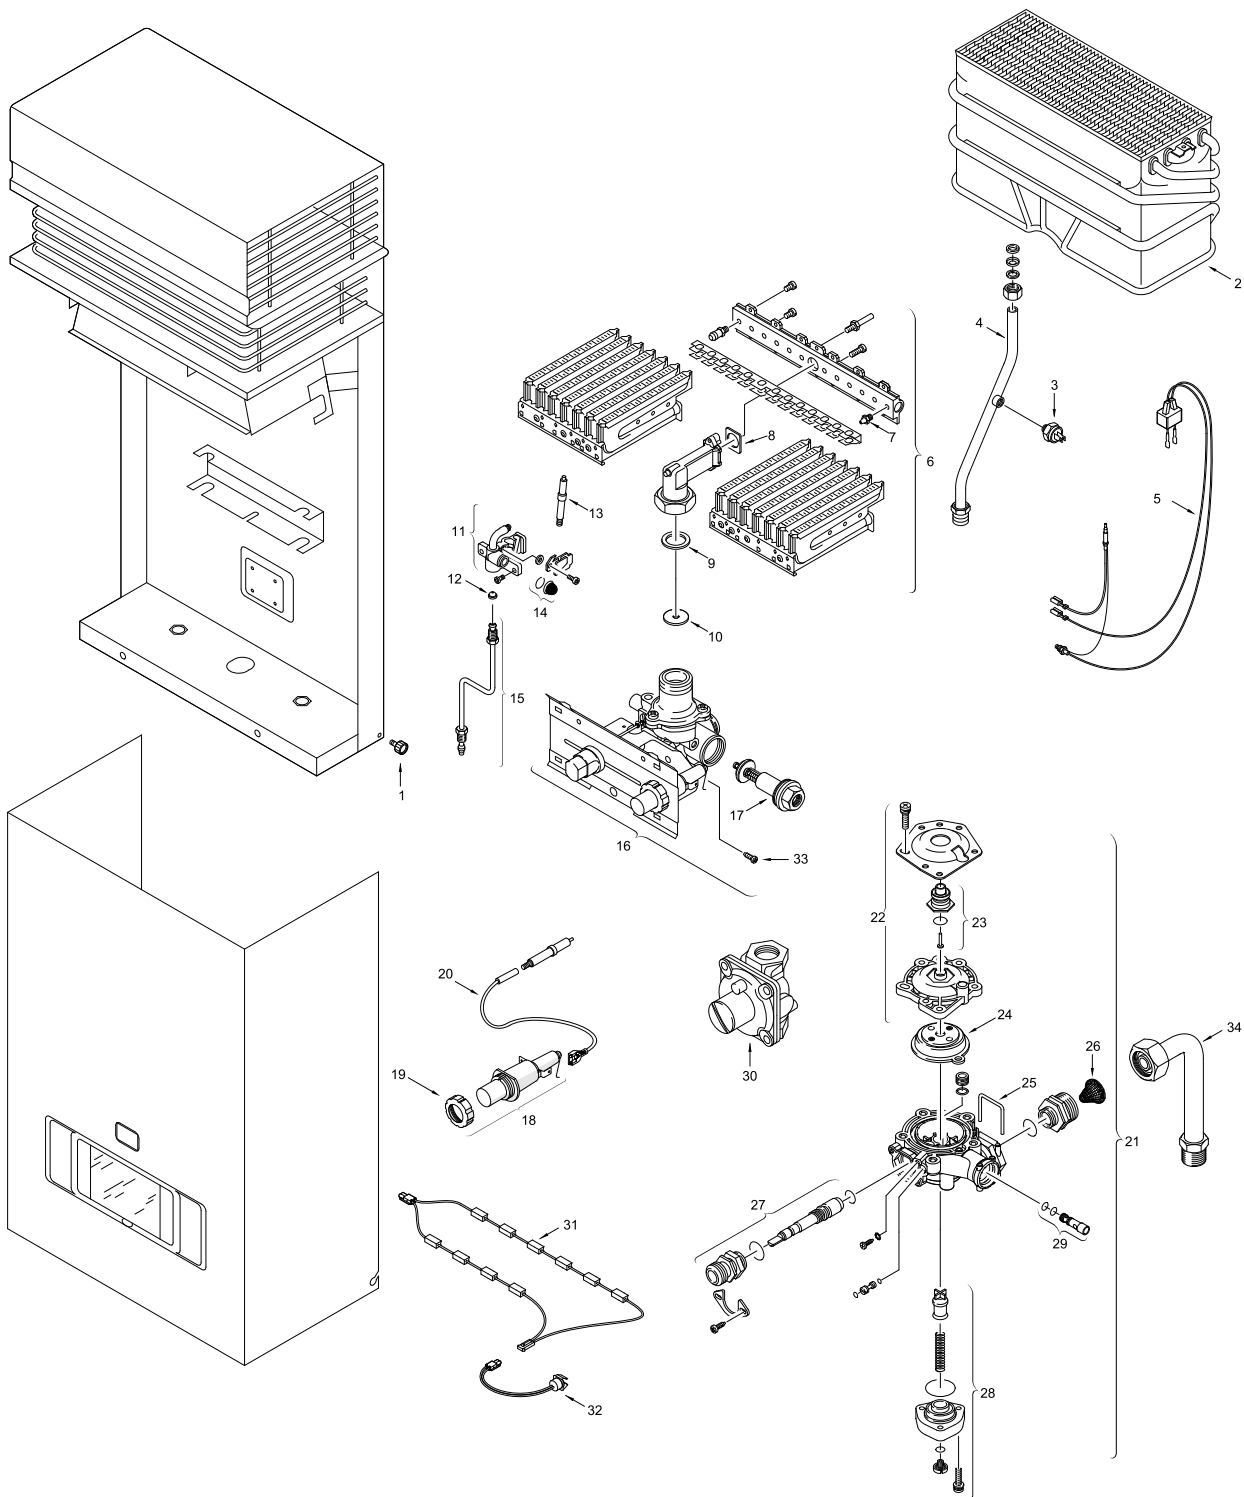

Fig. 13 Components Diagram
A more detailed instruction is available on our website at www.boschhotwater.com. Shut off all water to the unit and disconnect water pipe going to the back of the water valve. Disconnect water pipe going to heat exchanger by removing pin and pulling pipe out. Loosen two set screws at the base of the gas valve and drop the water valve down. Separate the two halves by removing 5 screws on the top of the water valve. Apply lithium or faucet and valve grease to the pushrod (see Fig 13, pos. 23). Inspect and clean the venturi (see Fig 13, pos. 29).